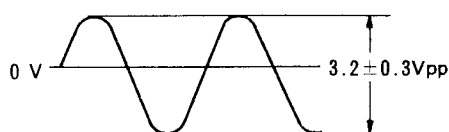

Fig. 6-1
- The waveform shown in Fig. 6-1 should be at terminal LFO (TP23) when LFO selector switch (PSW22) is set at " ~ ". Adjust VR9 so that  $100 \pm 2\text{Hz}$  be read when LFO SPEED control is set at F.